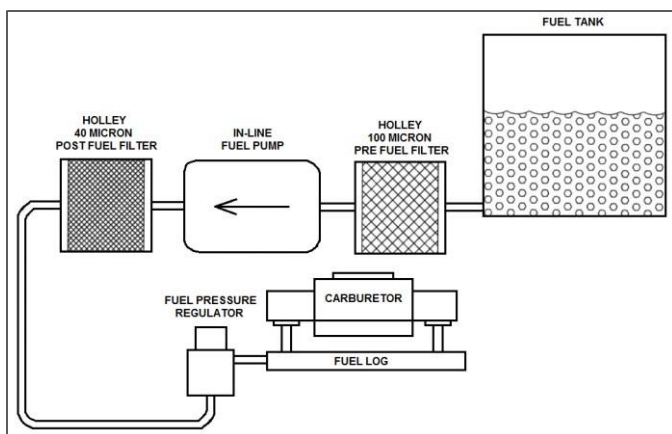

Figure 1
2. The standard regulator has two discharge (out) ports (**Figure 1**). In dual carburetor installations, one port can feed each carburetor. With single carbs, plug one port and feed the carburetor from the other. Either may be used. Installations should determine choice. See **Figure 1**.